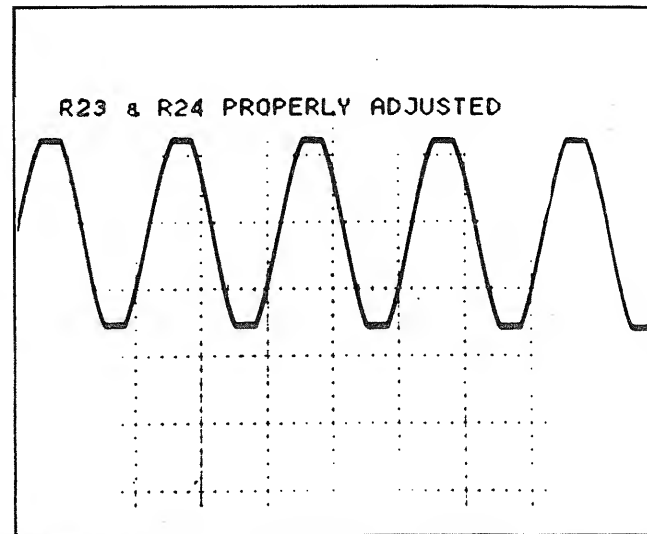

Figure 11 Properly Adjusted Pos and Neg Current Limit
- Shown in Figure 11 is an asymmetrically clipped waveform caused by an improperly adjusted positive current limit as determined by R24. Had R23 been properly adjusted, the negative half of the waveform would be clipped as well, but its degree of clipping is a function of R23 only and is independent of R24.
9. If R23 and R24 are properly adjusted, the channel should clip symmetrically (@ 1% THD) at approximately 450 watts as shown in Figure 11.